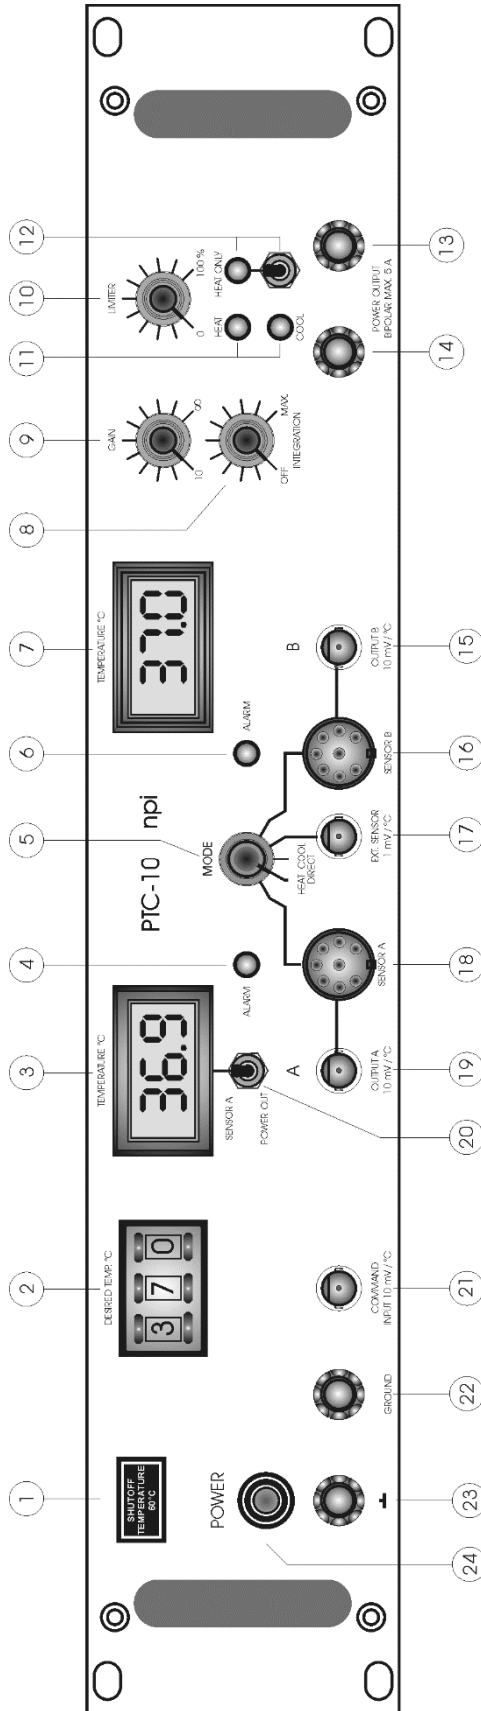

Figure 1: PTC-10 front panel view
In the following description of the front panel elements each element has a number that is related to that in Figure 1. The number is followed by the name (in uppercase letters) written on the front panel and the type of the element (in lowercase letters). Then, a short description of the element is given.
The internal thermometer (R2252 or PT 100 sensor) inputs are protected by the sensor alarm circuit (see above). If this thermometer is used as input for the PI controller, the ALARM circuit disconnects the power output if the sensor is damaged, not connected or if the measured temperature goes beyond the shutoff temperature (see also 24, Figure 1). This status is indicated by the red ALARM LED.
- Connect the “active” side to the + pole (**13**, Figure 1)
- Connect the “opposite” side to the - pole (**14**, Figure 1)
- Connect a Peltier element using an ALA DIN cable to one of the SENSOR connectors (**16**, **18**, Figure 1). The right polarity is ensured automatically.
Now it is ensured that the “active” side gets hot if the MODE switch (**5**, Figure 1) is set to HEAT and cold if the MODE switch (**5**, Figure 1) is set to COOL in DIRECT mode. The right polarity is also very important for all other operation modes (see chapter 3.6).
In DIRECT mode (no temperature control) the MODE switch (**5**, Figure 1) is switched to one of the two possible DIRECT positions:
In both DIRECT modes the control unit is not active, i.e. the output voltage is preset directly by the DESIRED TEMP. °C control (**2**, Figure 1). With setting from 000 to 999 the output voltage increases from 0 V to +12 V (DIRECT HEAT) or 0 V to -12 V (DIRECT COOL).